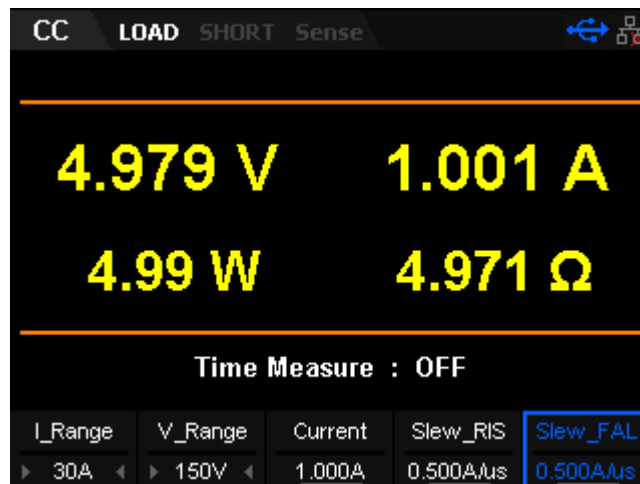

Figure 2-3 CC Mode Main Interface
2. Press CC to enter the main interface of CC mode, as shown in Figure 2-3.